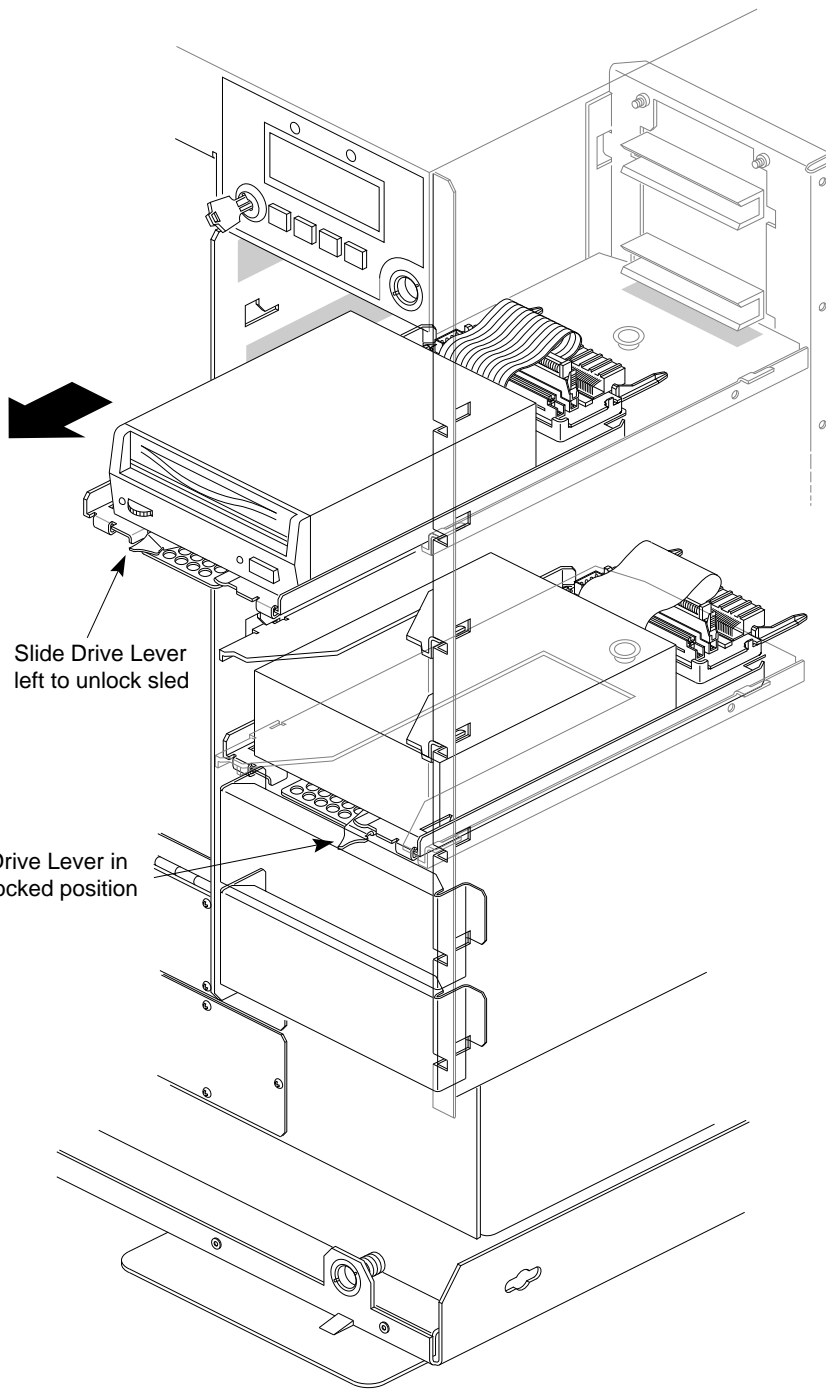

Figure 5-8 Installing a Drive
2. Push the drive lever to the right so that drive module mounts into place. The drive should not come out if you pull on it (see Figure 5-8).